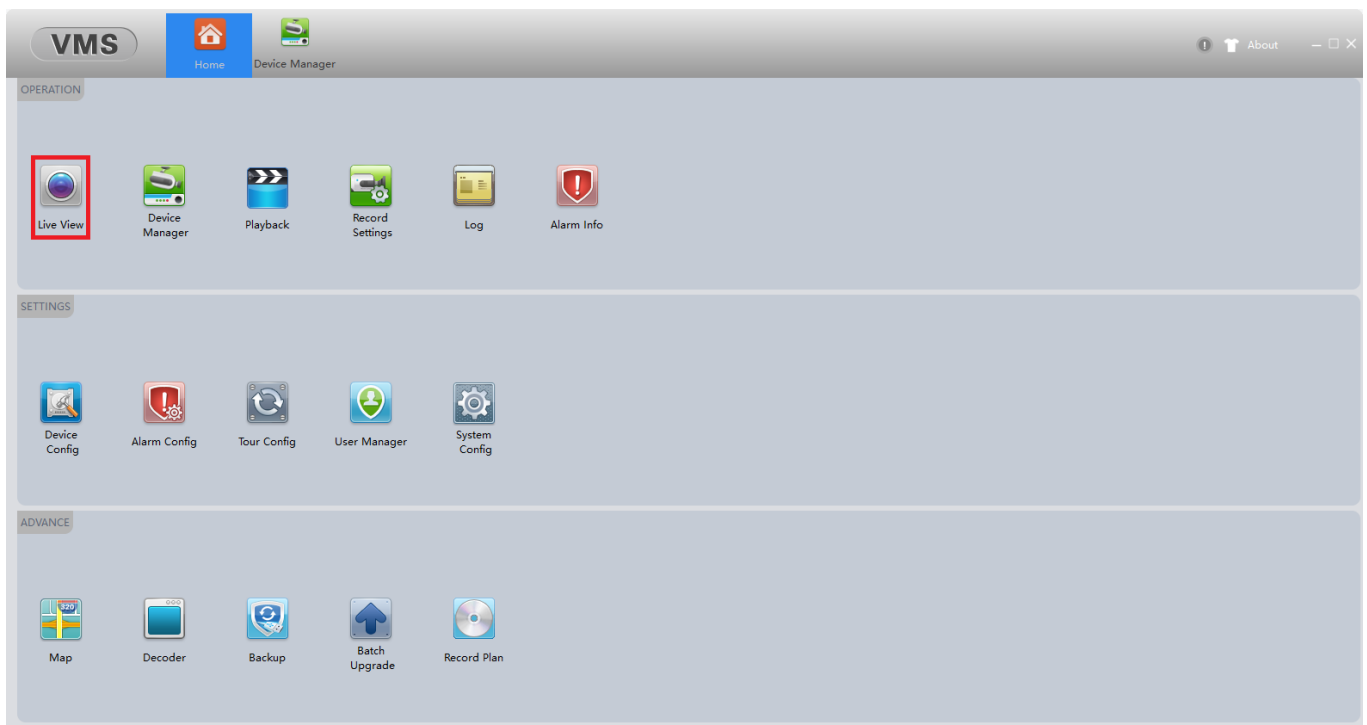

Figure 40. VMS software interface (Home page menu)
- Step 4: click “Live View” on the Home page (see Fig. 40);